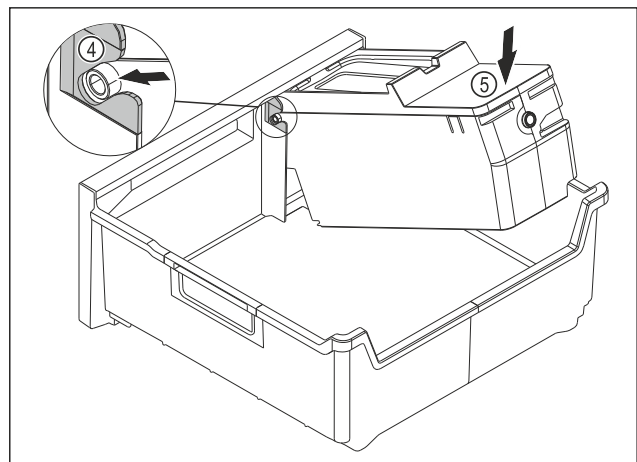

Fig. 167
- Installing the EasyTwist-Ice body: Insert the axes of the EasyTwist-Ice body into the guides Fig. 167 (4).
- Press down the EasyTwist-Ice body Fig. 167 (5) at the rear.